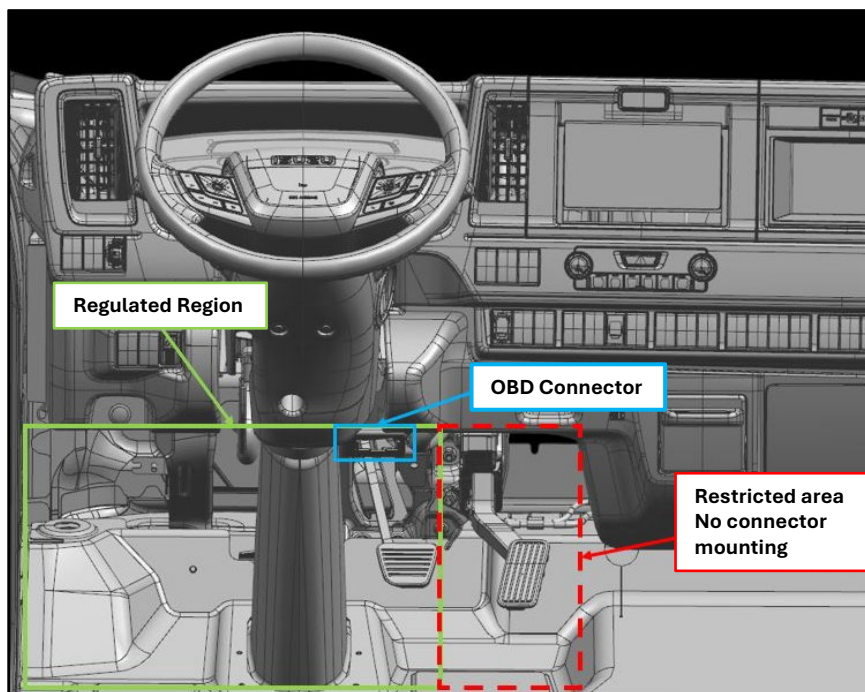
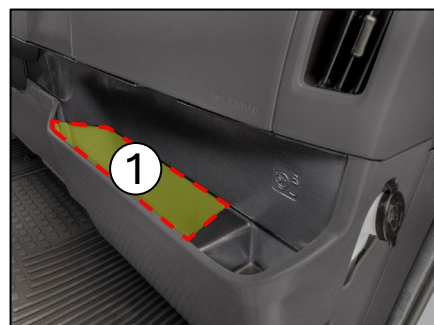

Figure 1
Figure 2
- To comply with California regulations, the final location of the provided 9-pin heavy duty connector (black) should not be within proximity of the existing chassis OBD connector. Figure 1 shows the restricted area where connector mounting should be avoided.
- The FMS Jumper Harness is located within the passenger side tray below the airbag as shown in Figure 2.
- 3 Route the FMS Jumper Harness so that the 9-pin heavy duty connector's final location is outside of the restricted area indicated in Figure 1.
- Certain devices have a built-in termination resistor (Figure 1) while others are not terminated. If the control unit is not equipped with an internal termination resistor, an external termination resistor must be connected as close to the control unit as possible (Figure 2).